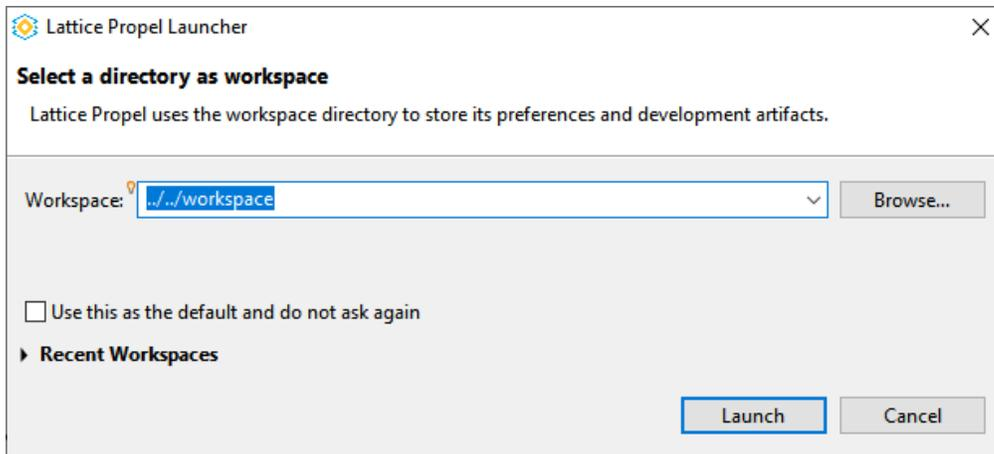

Figure 2.62. Lattice Propel Launcher Wizard
1. Click the **Run Propel** icon from the Propel Builder GUI Toolbar. Lattice Propel Launcher (Figure 2.62) opens.